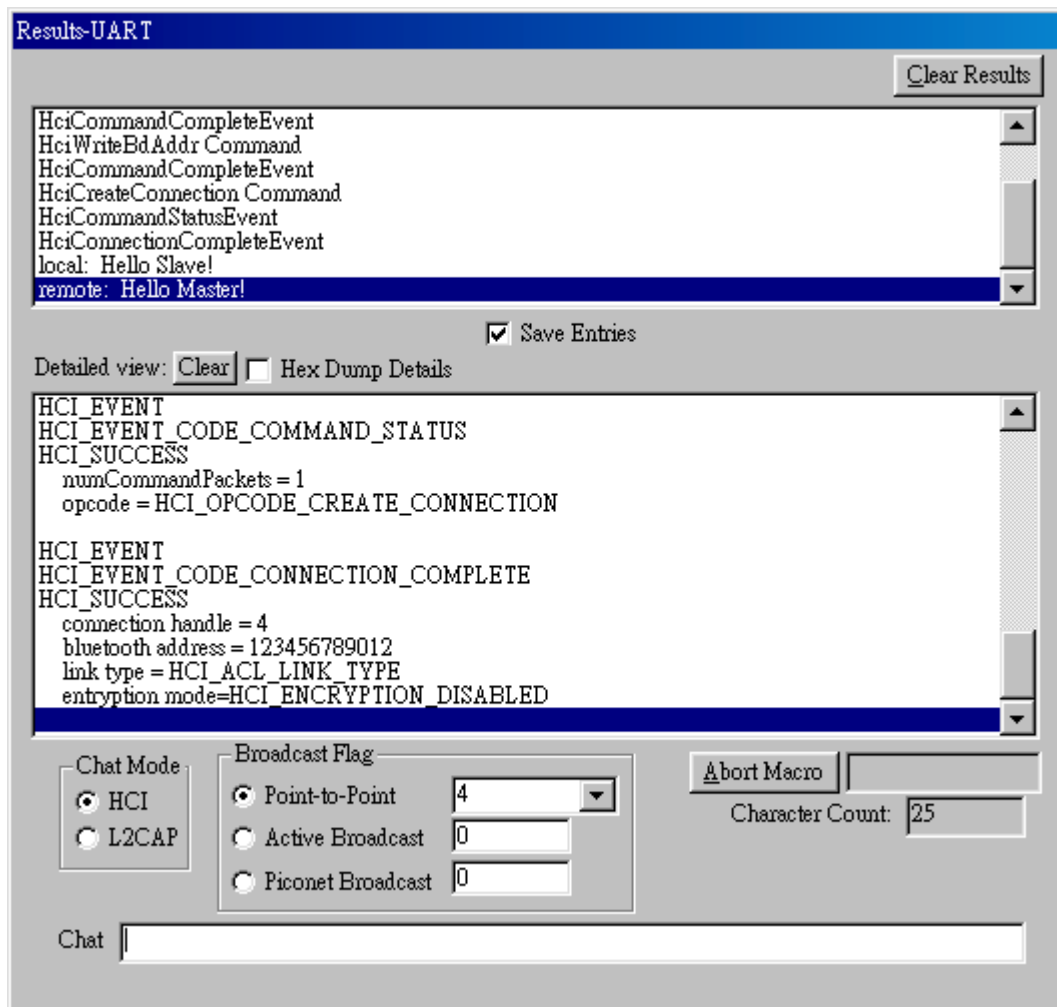

Figure 25: Receive "Hello Master!" Message from Slave Device
12. On the Slave computer, the screen show **"Hello Master!"** message from Slave computer.. (as Figure 25).